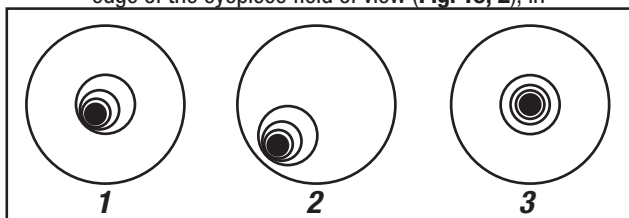

Fig. 16. Defocused star images. Misaligned (1, 2), aligned (3)
- b. While looking at the defocused star image, notice which direction the darker shadow is offset in the ring of light or notice which part of the ring is the thinnest (Fig. 16,1). Place your index finger in front of the telescope so that it touches one of the collimation set screws. You will see the shadow of your finger in the ring of light. Move your finger around the edge of the black plastic secondary mirror support until you see the shadow of the finger crossing the thinnest part of the ring of light. At this point, look at the front of the telescope where your finger is aiming. It will either be pointing directly at a set screw, or it will be between two set screws aiming at the set screw on the far side of the black secondary mirror support. This is the set screw that you will adjust.
- c. Using the AutoStar II's Arrow keys at the slowest slew speed, move the defocused image to the edge of the eyepiece field of view (Fig. 16, 2), in
- f. When you bring the image to center (Fig. 16, 3), carefully examine the evenness of the ring of light (concentricity). If you find that the dark center is still off in the same direction, continue to make the adjustment in the original turning direction. If it is now off in the opposite direction, you have turned too far and you need to turn in the opposite direction. Always double check the image in the center of the field of the eyepiece.